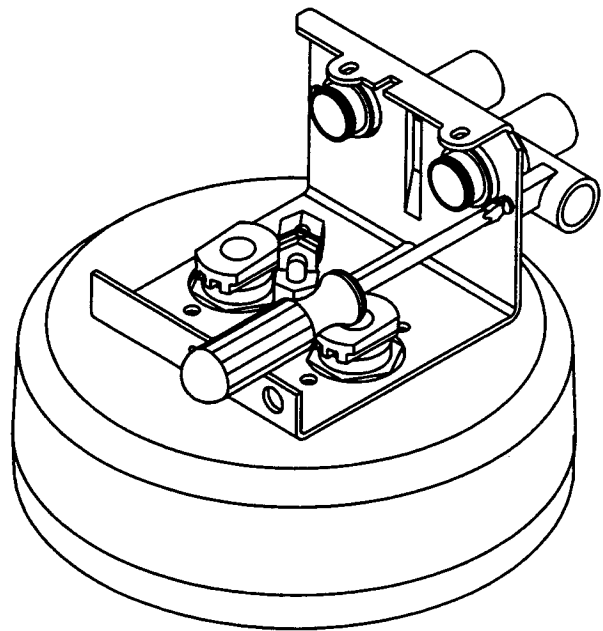

FIG. 9
- Insert the adapters with their O-rings into the Cul-Flo-Valv bypass as shown (Fig. 9).